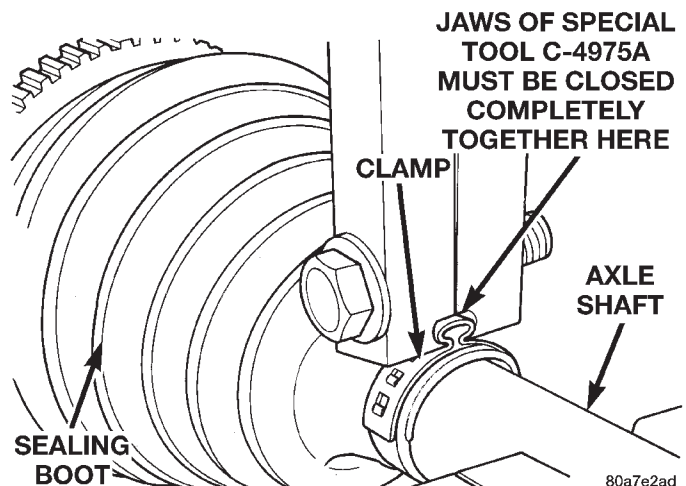

Fig. 8 Sealing Boot Retaining Clamp Installed
- (7) Tighten nut on crimping tool C-4975-A until jaws on tool are closed completely together, face to face (Fig. 8).